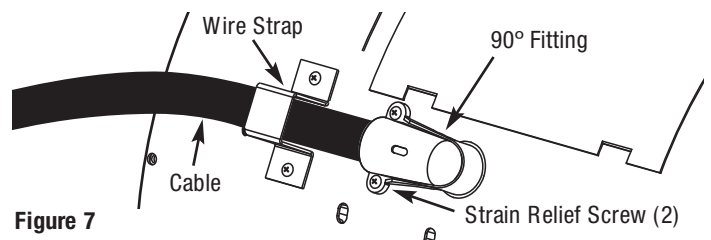

Figure 7
6. Attach cord assembly to heater (Figure 7). Refer to appropriate wiring diagram for your model (page 4).